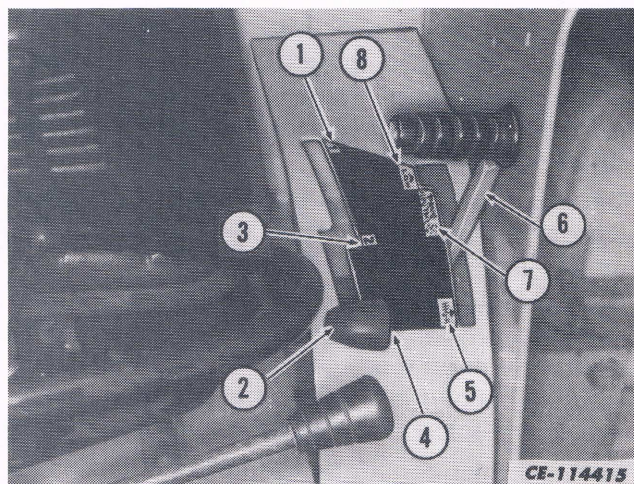

Fig. 14. Transmission Range and Speed Shift Levers
The transmission range lever (6, Fig. 14) and speed lever (2) are used to select any one of the six forward or three reverse speeds. The range lever also has a "N" (neutral) position (7).
Range Shift Lever (6, Fig. 14)
Speed Shift Lever (2, Fig. 14)